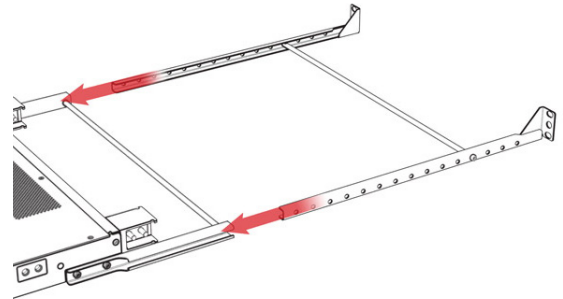

Figure 8. Rear support rails
- Step 4.** Slide the rails of the rear rack support assembly into the lacing bar assembly (see Figure 8).